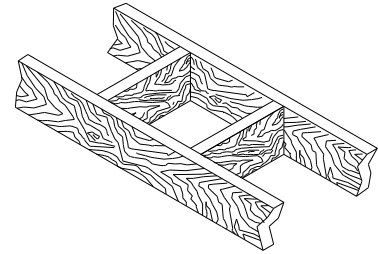

Figure 22
1. Cut and frame the holes in the ceiling, floor and roof where the chimney will pass (see figure 22). Use a plumb bob to line up the centre of the holes. The sizes are indicated in table 1 for the floor and ceiling holes and table 2 (page 24) for the roof holes.